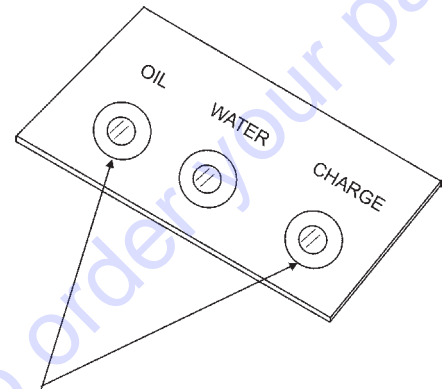

**Figure 7. Blade Speed Control Foot Pedal**
3. The right foot pedal (Figure 7) controls blade and engine speed. The position of the foot pedal determines the blade speed. Slow blade speed is obtained by slightly depressing the pedal. Maximum blade speed is obtained by fully depressing the pedal.